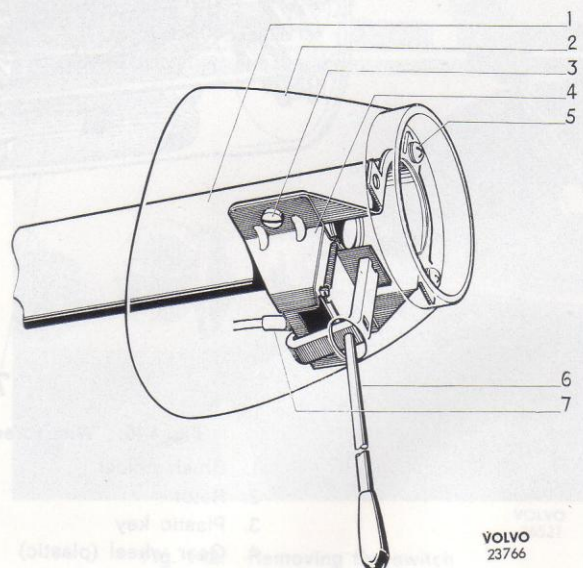

Fig. 139. Turn indicator switch
2. Take off the screws (5, Fig. 139) holding the protective casing to the steering column and lift off the casing.